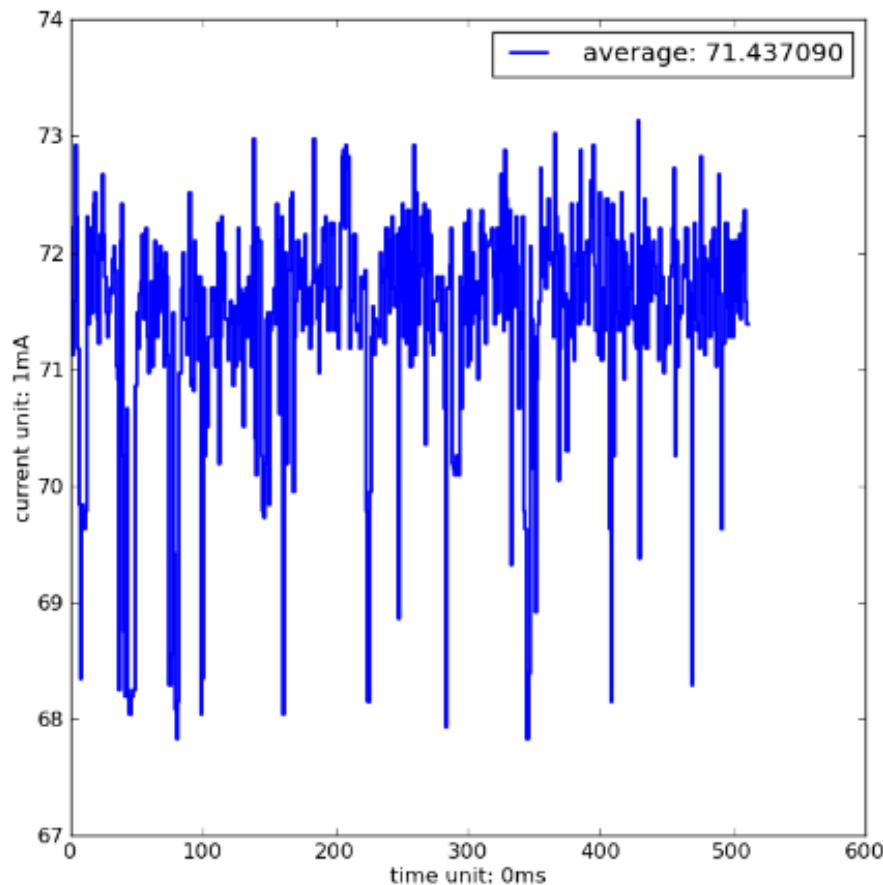

Figure 4-12. Current Measurement of Packet Receive Operation Power Consumption Test #1
- Execute the Python script to test the power consumption when ESP-Launcher receives 1024 bytes long packets in an environment of IEEE 802.11g standard and -80 dB transmit power. The average power consumption is 71.43 mA, as Figure 4-12 shows: